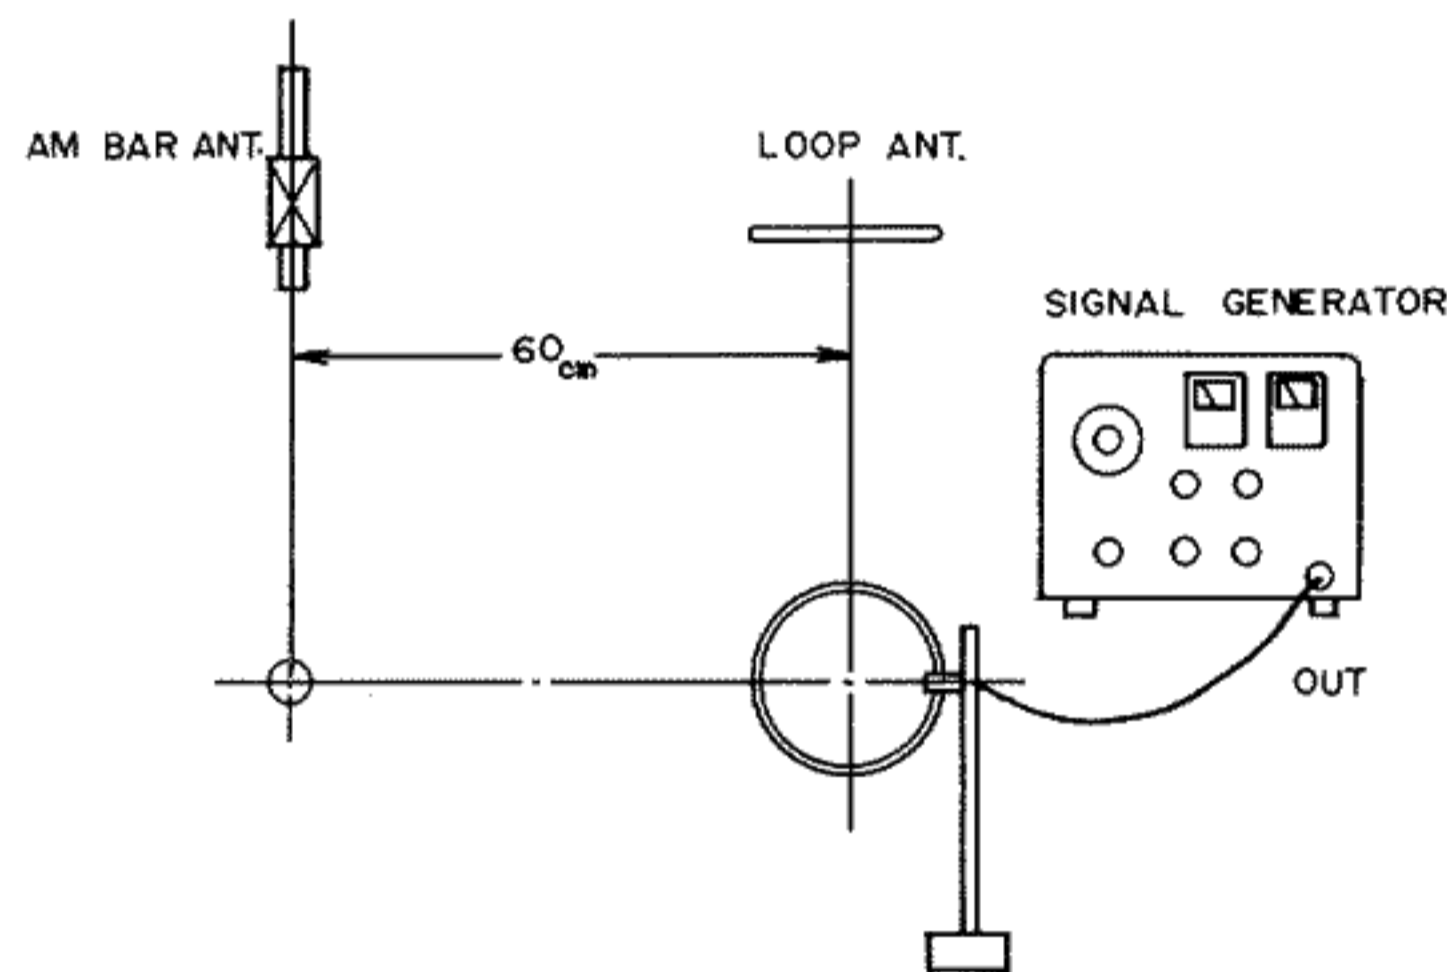

Fig. 11
a) Signal Generator : Fashion loop of several turns of wire and connect generator across loop. Then set it to 455kHz (When IF alignment), and place the loop as shown in Fig. 11.